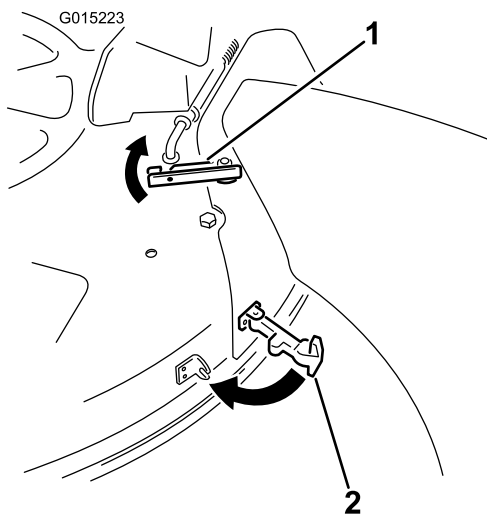

Figure 27
7. On the top of the chute, engage the upper latch around the pivot rod of the deflector assembly as shown in Figure 27.
8. Secure the chute to the mower deck by hooking the flexible latch on the chute to the retaining clasp welded on the mower deck (Figure 27).